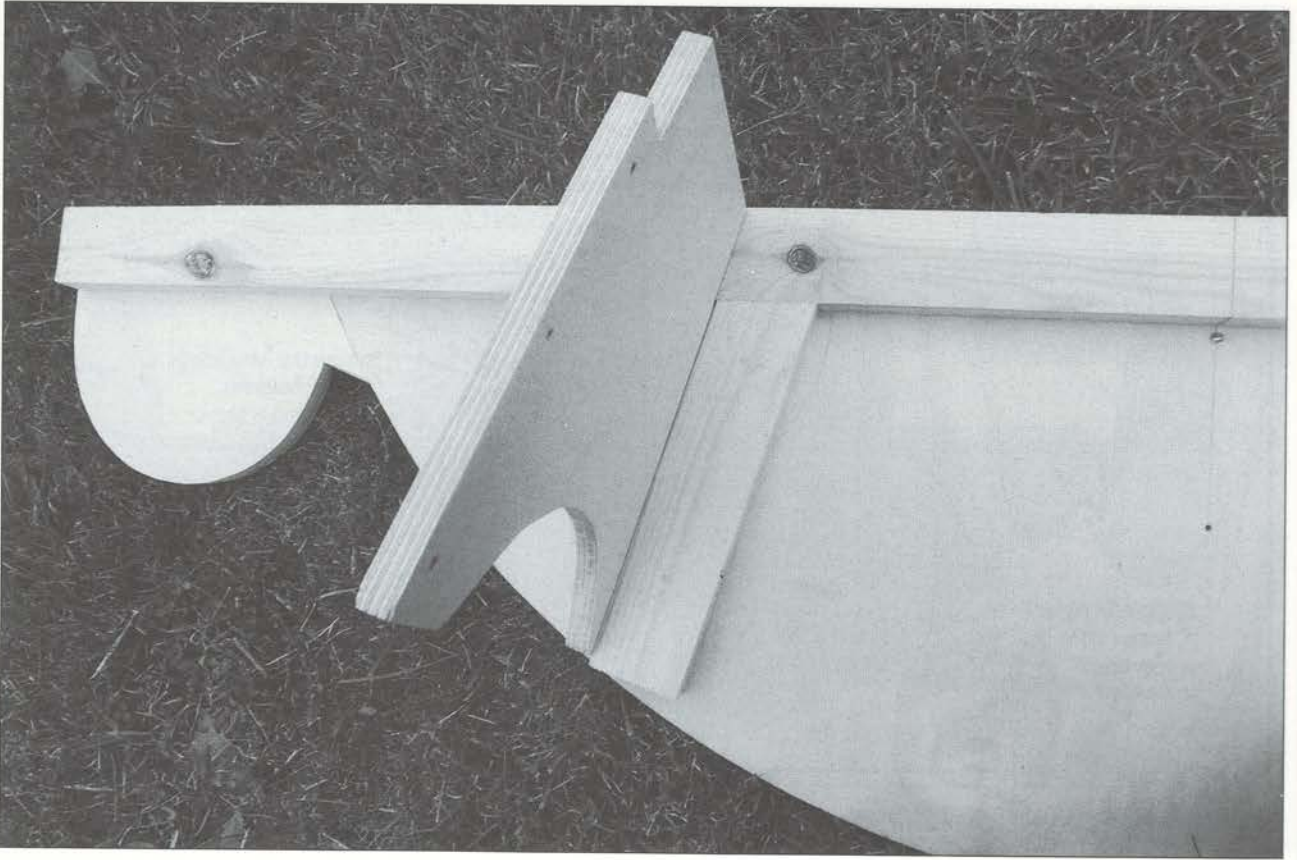

Fig 19.4 Part D is screwed onto C. The slot in D fits over B.
Screw D temporarily in position to C. Fig 19.4 shows how the notches in D fit round the two-by-one batten (B) on the top edge of A.
Now saw to shape the four K parts and drill and countersink the two holes in each part. Glue and screw one K to each A on the battens extending from A. The semicircular edge of K should fit snugly against the top of A (see Figs 19.4 and 19.7).